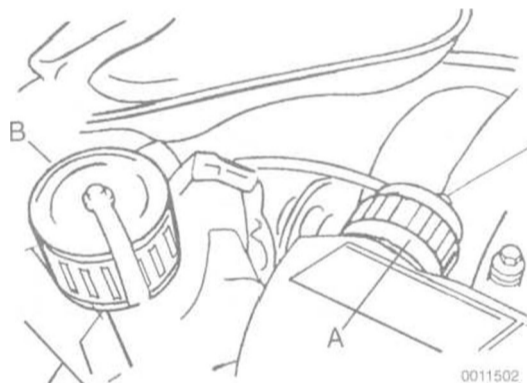

Fig. 13. Main engine wiring harness connector (A) and diagnostic connector (B) at rear of engine compartment.
6. Separate main wiring harness plug. Unclip diagnostic connector from bracket. See Fig. 13.